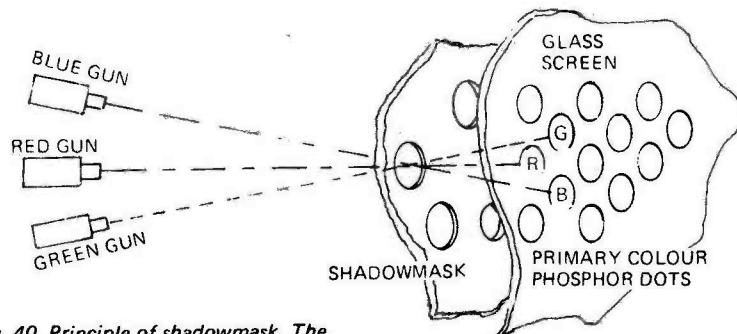

Fig. 40. Principle of shadowmask. The beam from each gun can only reach the phosphor dots of one colour.
**Shadowmask** This is a steel plate perforated with thousands of tiny holes which is mounted in the path of the electron beams just before the screen phosphors deposited on the inside faceplate. Its function is to ensure that through each hole each electron gun can 'see', because of its position, only a dot of the correct primary colour phosphor - see Fig. 40. Thus more than 2/3rds of the electrons emitted by each gun are merely absorbed by the shadowmask while the remainder pass through to a particular set of phosphor dots. Hence the inefficiency of light production compared with a monochrome tube which has a continuous phosphor and of course no shadowmask.
shadowmask is fixed in place. Then a slurry of photosensitive material and the phosphor of one primary colour is run onto the screen through the shadowmask. A small ultraviolet light is then shone on the shadowmask from the position the relevant electron gun will occupy. The dots of light cast on the slurry cause the phosphor to be fixed in place at these points; the rest is washed away. The process is repeated for the other two phosphor colours with the light in different positions to yield a three-colour screen as in Fig. 40.